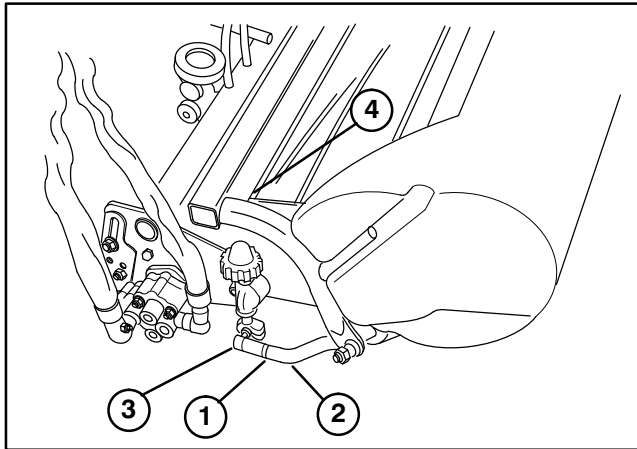

Figure 6
6. Mount the baskets on the pull frames, loosen the jam nuts on the pull arms and adjust the ball sockets until there is 1/4 in. to 1/2 in. clearance between the lip of the basket and the reel blades (Fig. 6).
7. Align the sockets in the ball joints so the open side of the socket is centered towards the ball stud. Tighten the jam nuts to secure the sockets in position (Fig. 6).